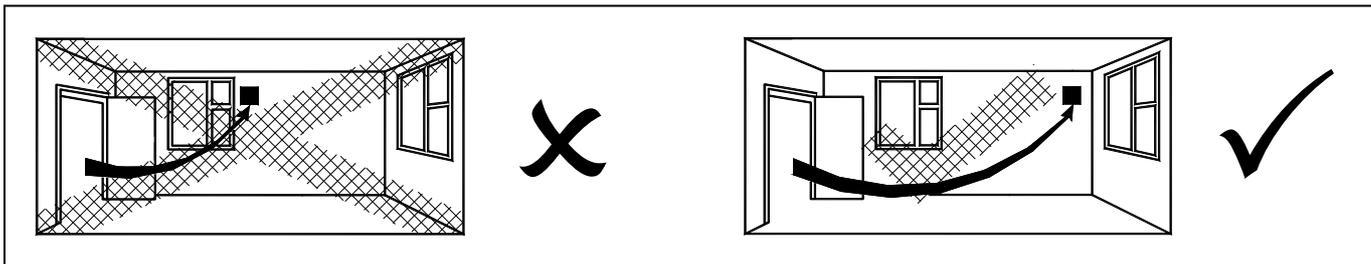
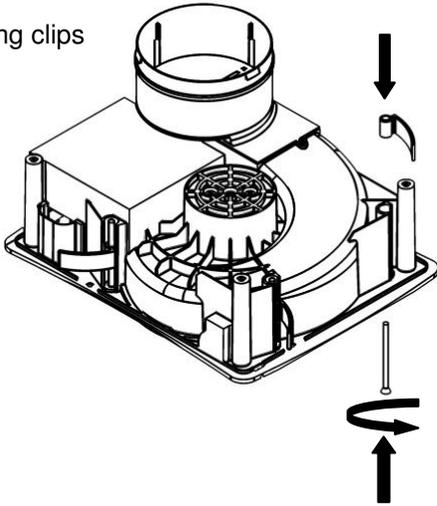

Fig. 1.
Fig. 6. PIR sensor cable - (TM only)
2. Removing the grille. Firstly remove the front cover by carefully pulling each corner of the front panel until it is free to be removed from the inner grille (Fig 1). Unscrew the two screws at the bottom of the inner grille. The screws will remain in the inner grille but will be loose when the grille is ready to be removed (Fig 1). Lift the inner grille from the bottom edge ensuring not to damage the sensor cable (TM model only) attached to the front assembly and Base Housing (Fig 6).
8. Replace the inner grille ensuring that the PIR sensor cable (TM model only) is reconnected to the PIR sensor PCB (Fig 6). Replace the front panel.
10. Replace the inner grille ensuring that the PIR sensor cable (TM model only) is reconnected to the PIR sensor PCB (Fig 6). Replace the front panel.
5. Removing the grille. Firstly remove the front cover by carefully pulling each corner of the front panel until it is free to be removed from the inner grille (Fig 1). Unscrew the two screws at the bottom of the inner grille. The screws will remain in the inner grille but will be loose when the grille is ready to be removed (Fig1). Lift the inner grille from the bottom edge ensuring not to damage the sensor cable (TM model only) attached to the front assembly and Base Housing (Fig 6).
12. Replace the inner grille ensuring that the PIR sensor cable (TM model only) is reconnected to the PIR sensor PCB (Fig 6). Replace the front panel.